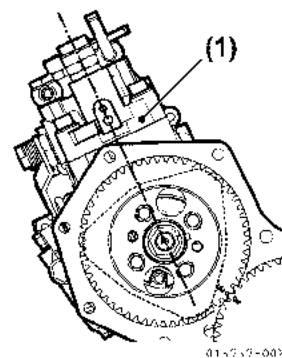

Figure 6-52
1. Locate and record the fuel injection pump timing index number (Figure 6-53, (1)) stamped into the boss on the engine side of the fuel injection pump housing (Figure 6-52, (1)).